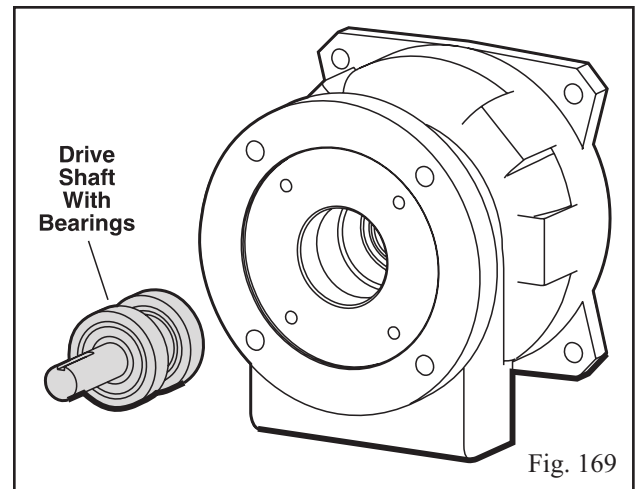
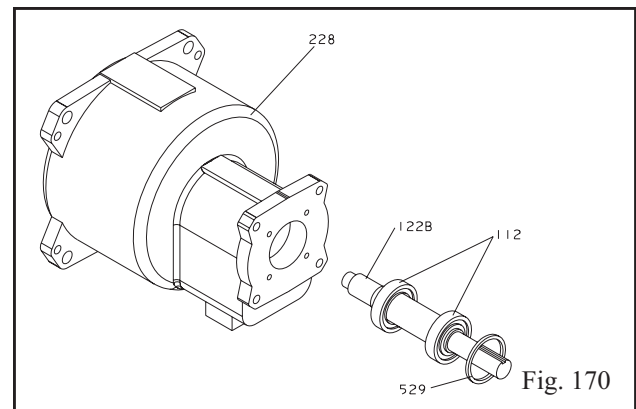

Fig. 169
Fig. 170
19. Install shaft (122B) with ball bearings (112) into bearing frame (228). The threaded end of the shaft goes toward the magnets (Fig. 169). Install wave washer (529) (Fig. 170).